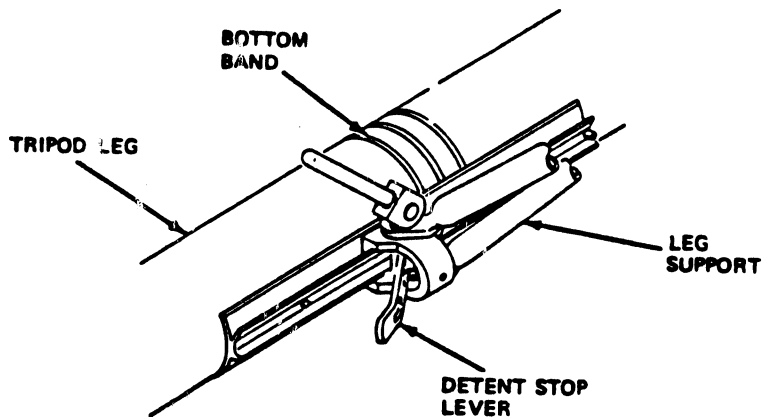

Fig 2-2. Extending the tripod leg.
Step 2. Press one detent stop lever down and release. Pull one leg of the tripod out until the leg support reaches the bottom band on the leg (fig 2-2).